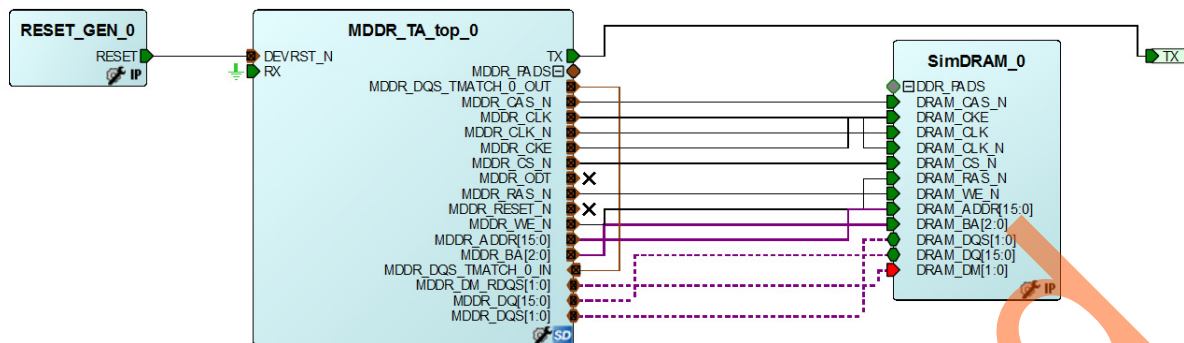

Figure 11 • SmartDesign Testbench for Example Design with Microsemi LPDDR SDRAM VIP
4. Connect the signals as shown in Figure 11.